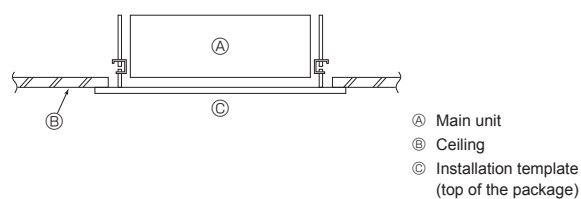

Fig. 3-6
- Make sure that A is performed within 17-22 mm. Damage could result by failing to adhere to this range. (Fig. 3-6)